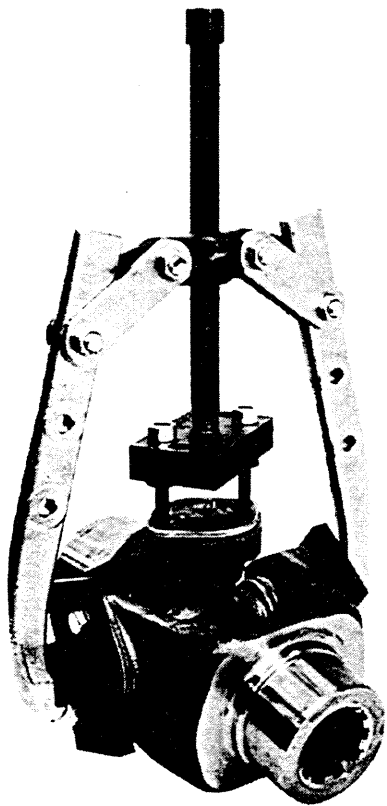

FIGURE 4
- Set up the puller on u-joint as shown in Figure 4. (See next page)